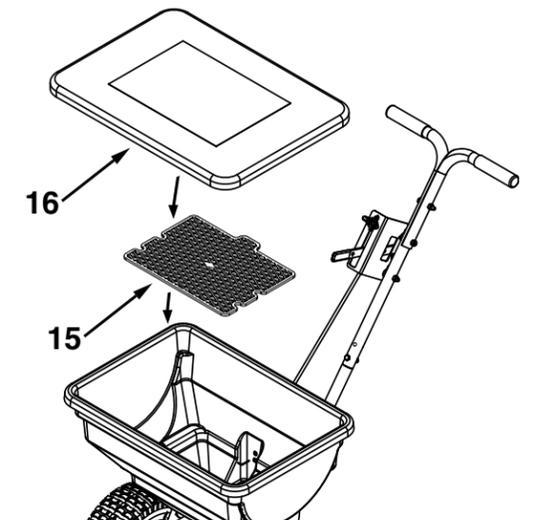

Figure 19
STEP 16: (SEE FIGURE 19)
- Attach the end of the control rod (8) shown below through the slide gate bracket on the hopper.
STEP 19: (SEE FIGURE 19)
- Install the grate (15) as shown below. Then install the cover (16) onto the hopper.